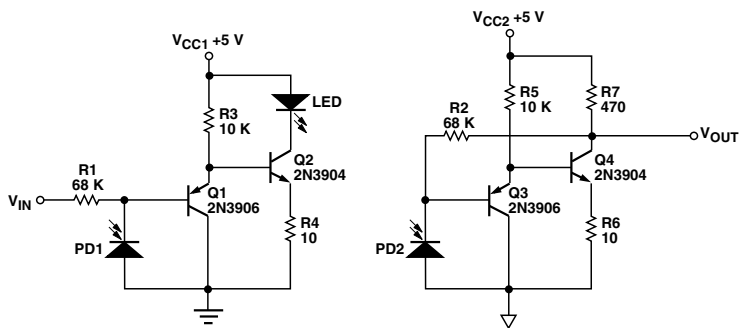

Figure 16. High-speed low-cost analog isolator.
- IMRR is defined as the ratio of the signal gain (with signal applied to  $V_{IN}$  of Figure 16) to the isolation mode gain (with  $V_{IN}$  connected to input common and the signal applied between the input and output commons) at 60 Hz, expressed in dB.
The circuit shown in Figure 16 is a high-speed low-cost circuit designed for use in the feedback path of switch-mode power supplies. This application requires good bandwidth, low cost and stable gain, but does not require very high accuracy. This circuit is a good example of how a designer can trade off accuracy to achieve improvements in bandwidth and cost. The circuit has a bandwidth of about 1.5 MHz with stable gain characteristics and requires few external components.
Although it may not appear so at first glance, the circuit in Figure 16 is essentially the same as the circuit in Figure 12a. Amplifier A1 is comprised of Q1, Q2, R3 and R4, while amplifier A2 is comprised of Q3, Q4, R5, R6 and R7. The circuit operates in the same manner as well; the only difference is the performance of amplifiers A1 and A2. The lower gains, higher input currents and higher offset voltages affect the accuracy of the circuit, but not the way it operates. Because the basic circuit operation has not changed, the circuit still has good gain stability. The use of discrete transistors instead of op-amps allowed the design to trade off accuracy to achieve good bandwidth and gain stability at low cost.